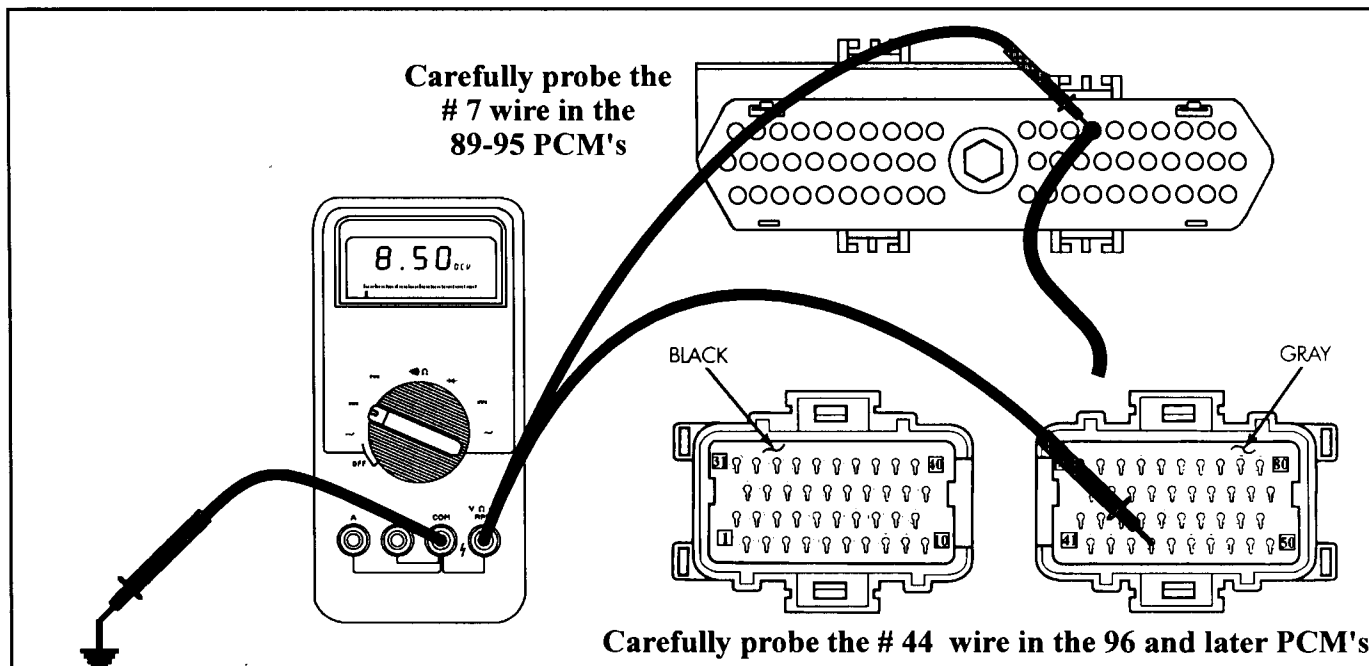

Figure 28
- The engine computer (PCM) supplies an 8 to 9 volt feed to the Distributor signal on 3.0L vehicles and 5 to 9 volts to the crank sensor on 3.3 and larger liter engines. If an RPM signal can not be viewed from either the PCM or TCM, first check to see if the PCM is supplying the proper voltage. This can be done by placing the negative lead to ground and carefully back probe wire # 7 in the PCM for all 89 to 95 vehicles. (See Figure 28). Vehicles 1996 and later, carefully back probe terminal 44. If voltage is not seen, replace the PCM. If feed voltage is seen, check the connector from the distributor signal sensor connector or the crank sensor connector for bad or pushed out terminals. If the connector checks good, change the sensor.